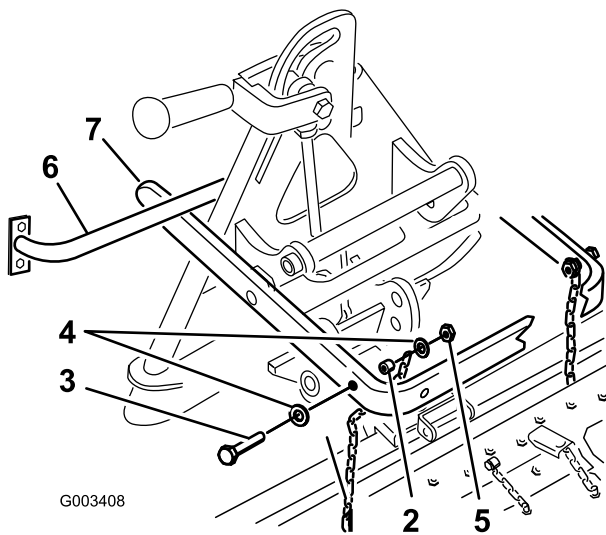

Figure 6
Important: The long arm of the lift arm assembly must be under the traction unit rear frame assembly (Figure 6).
5. Secure the top link of each chain to the inside of the lift arm using a bolt ($3/8 \times 2-1/2$ inches), 2 washers ($3/8 \times 7/8$ inch), a spacer, and a locknut ($3/8$ inch) (Figure 6).